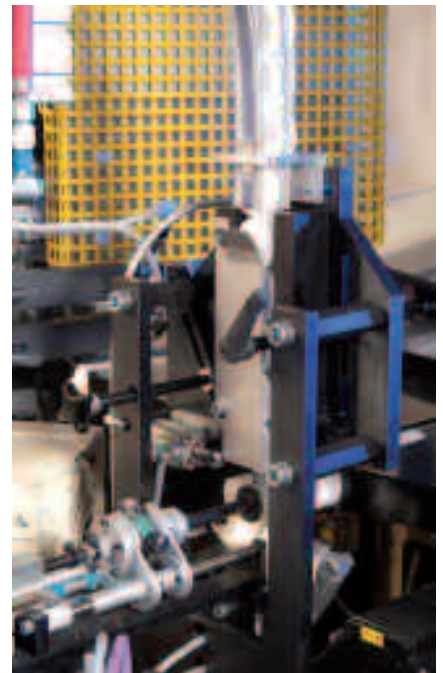

Figure 3: Capping station for cosmetic tubes integrated into a screen printing machine
- a capping station (see figure 3), a torque control station and a lacquering station can be integrated into a six-colour tube screen printing machine